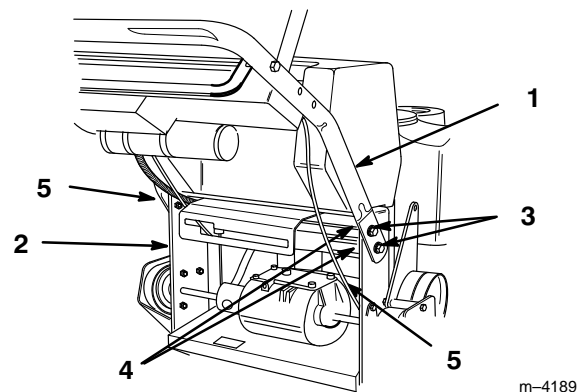

Figure 4
2. Secure each side with (2) 3/8 -16 x 1" (26mm) flange bolts and flange nuts (Fig. 4). Torque bolts to 25 ft. lbs. (34 N.m).
3. Route cables and wire harness inside of frame (Fig. 4). Secure wires and cable to handle with wire tie.